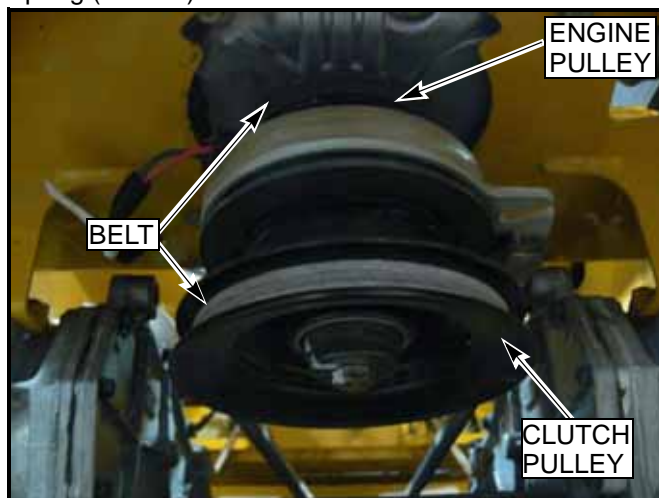

FIG. 27
3. The deck belt must be removed from the clutch pulley first by releasing the deck belt tension by pulling on the belt tension chain and sliding the chain out of the anchor bracket slot. This will relieve the tension on the deck belt idler spring (FIG. 27).
6. Slide the belt off the engine pulley. The belt will have to be slid above the engine pulley to allow the belt to be removed from the other pulleys (FIG. 27).